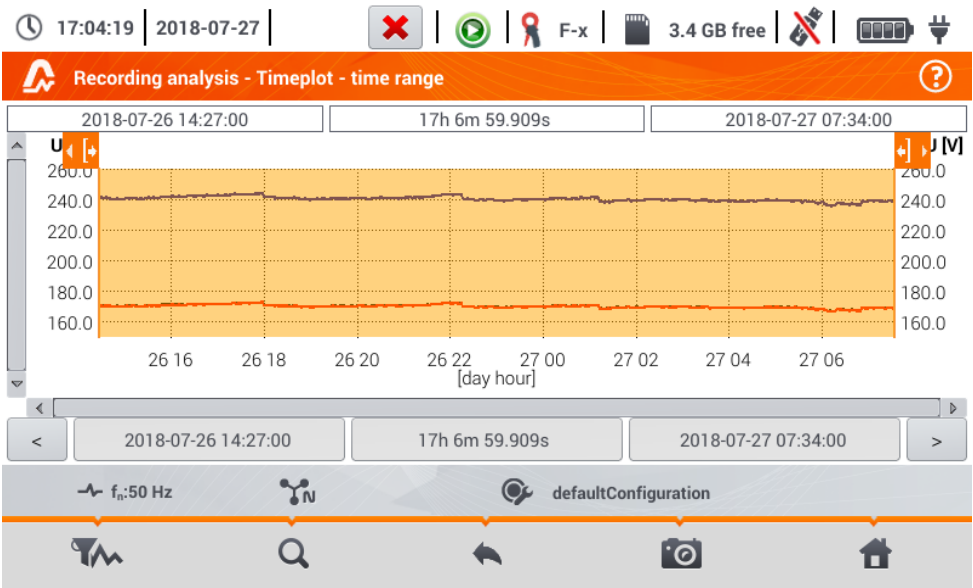

Fig. 5.19. Recording timeplot
If in **section 5.8** step ③ the  icon has been selected, the screen shown in **Fig. 5.19** will appear.